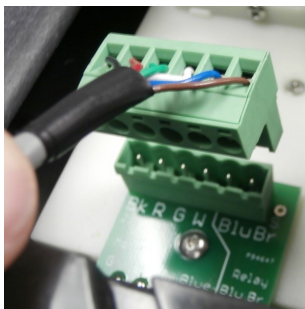
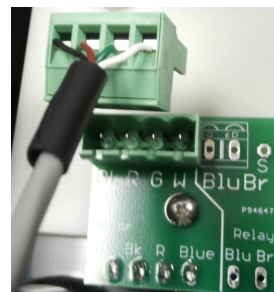

Figure 1.13
Figure 1.14
7. Follow the wire sequence in **figure 1.13** or **figure 1.14** for each EHU. *Be careful to ensure that there are no bare wires protruding out from the terminal clamps, to avoid potential shorts. Also make sure you are clamping down on bare wire, and not the insulation of the wire* The wiring sequence for each EHU is also imprinted on the PCB that the terminal header is mounted on (located inside the EHU), as shown in **figure 1.12**. Pay no attention to the second row of imprinted text, these pins are for use in the manufacturing of the board itself and are of no use to you. **Figure 1.12** shows a blue line crossing out the text in question. The orange circle shows the correct wiring sequence.